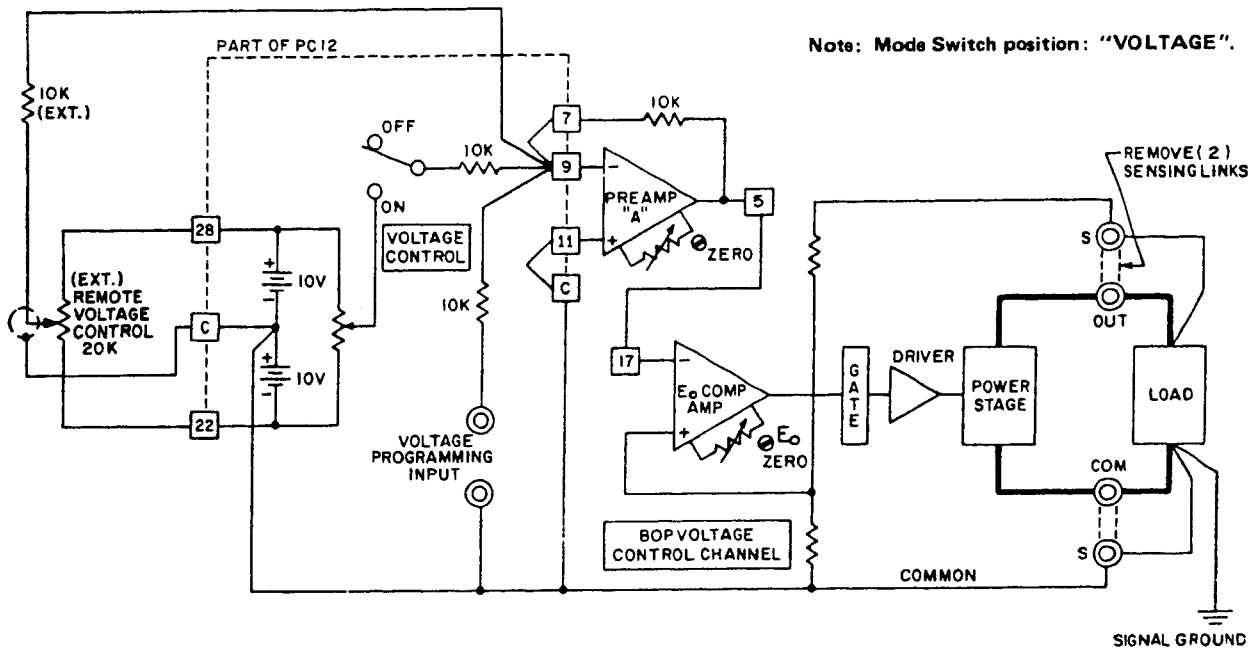

FIG. 3-4 REMOTE POTENTIOMETER CONTROL OF THE BOP D-C OUTPUT VOLTAGE
- 3-11 **REMOTE D-C OUTPUT VOLTAGE CONTROL BY RESISTANCE.** As seen in FIG. 3-4, and as described in a previous paragraph (Paragraph 3-6) the BOP d-c output potential can be controlled within its specified range by means of the VOLTAGE CONTROL, with the VOLTAGE CONTROL SWITCH in the ON position. PREAMP "A" with the built-in feedback and input resistors, has a gain of one and the fixed gain of all BOP models is designed so that a d-c input signal of zero to (\pm)10 volt will control the BOP output through its specified range. In the local (front panel) control mode, the d-c control potential is applied via the VOLTAGE CONTROL. In the remote control mode, a similar control circuit, located external to the BOP is substituted for the internal control elements.
3-12 As shown in FIG. 3-4, this control method can readily be performed remotely, by setting the VOLTAGE CONTROL SWITCH to the OFF position and connecting an external REMOTE VOLTAGE CONTROL as indicated in FIG. 3-4.